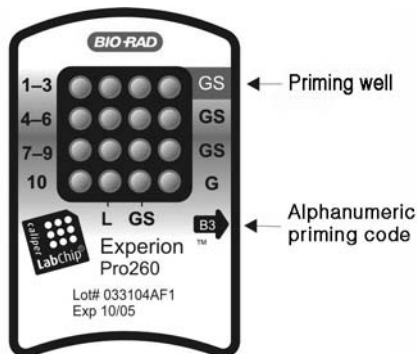

Fig. 1.1. Experion Pro260 chip. The locations of the gel priming well (GS) and alphanumeric priming code are indicated.
1. Pipet 12 μ l GS into the top right well labeled **GS** (gel priming well) (Figure 1.1). Insert the pipet tip vertically and to the bottom of the well when dispensing. Dispense slowly, and do not expel air at the end of the pipetting step.
2. Set the pressure setting to **B** and the time setting to **3**, as specified by the alphanumeric code on the chip (Figure 1.1).
1. Using a pipet, remove and discard any remaining GS from the gel priming well (Figure 1.1).